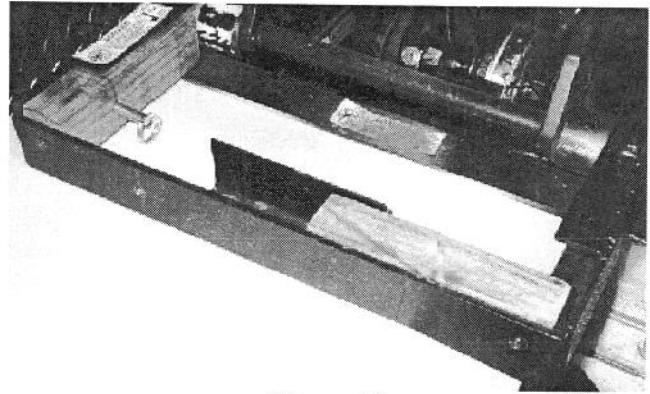

Figure 18
7. Rotate safety blocks 90° in channel and secure to ends of lift frame with retaining pins (Fig. 18).